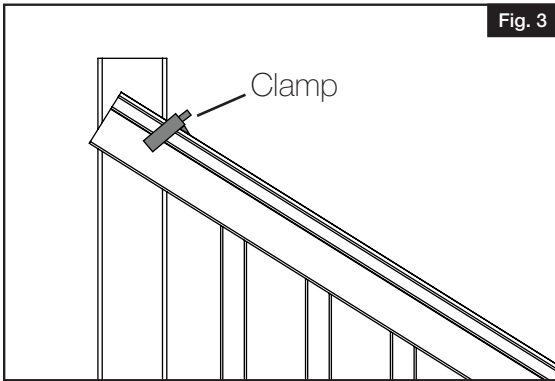

Fig. 3
After posts have been installed, determine angle of railing (Fig. 3).
- a. Place assembled stair railing section adjacent to mounted stair posts, leaving equal distances from the ends of both balusters and clamp your stair railing section to the posts (Fig. 3).